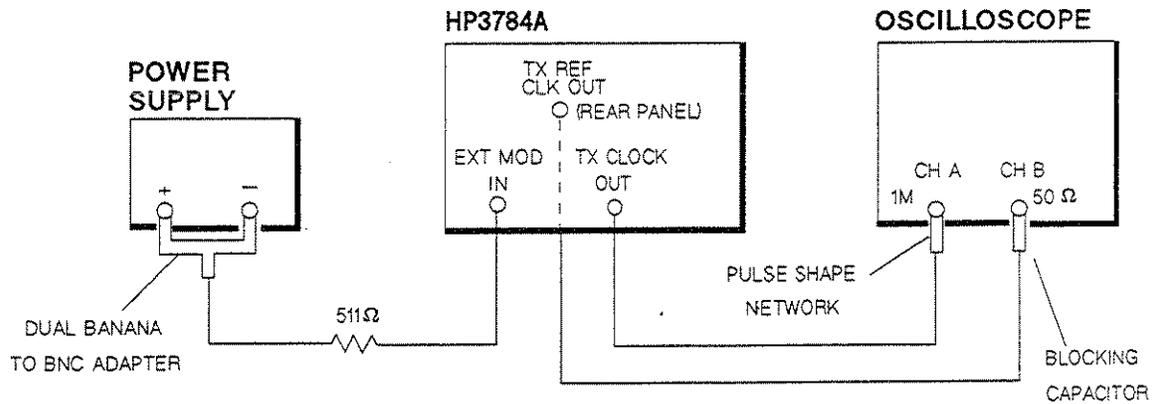

Figure 8-16 External Modulation Test Set-up 1 (Clock Output)
- Connect the test equipment as shown in Figure 8-16.